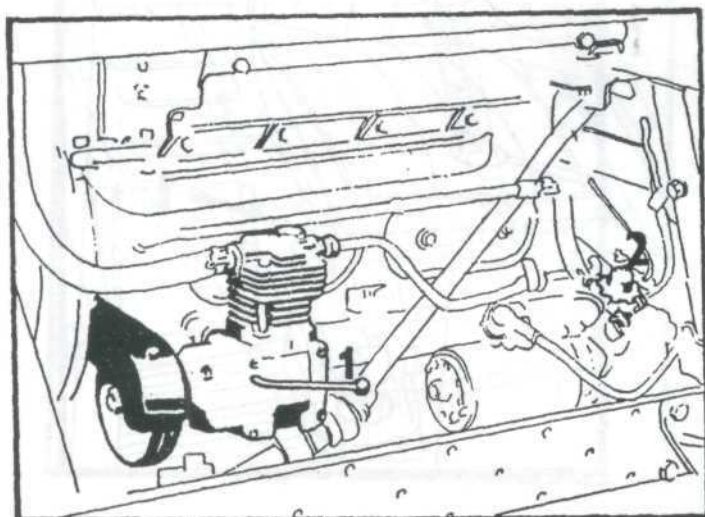

Fig. 10
- Compressor control lever (Fig. 10/1)
- Heating system cooling liquid drain plug (Fig. 10/2)